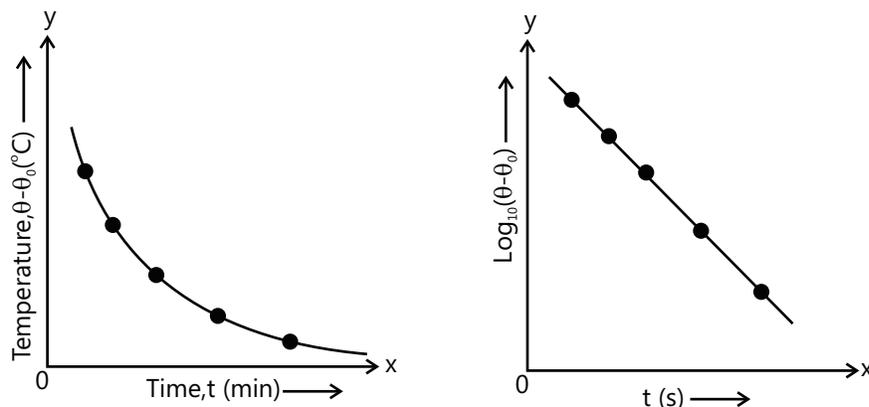

Figure 27.16
- (i) Plot a graph between  $(\theta - \theta_0)$  and  $t$  as shown in the Fig 27.16, taking  $t$  along x-axis and  $(\theta - \theta_0)$  along y-axis. This is called cooling curve.
- (ii) Also plot a graph between  $\log_{10}(\theta - \theta_0)$  and time  $t$ , as shown in Fig 27.16, taking time  $t$  along x-axis and  $\log_{10}(\theta - \theta_0)$  along y-axis. Choose suitable scales on these axes. Identify the shape of the cooling curve and the other graph.